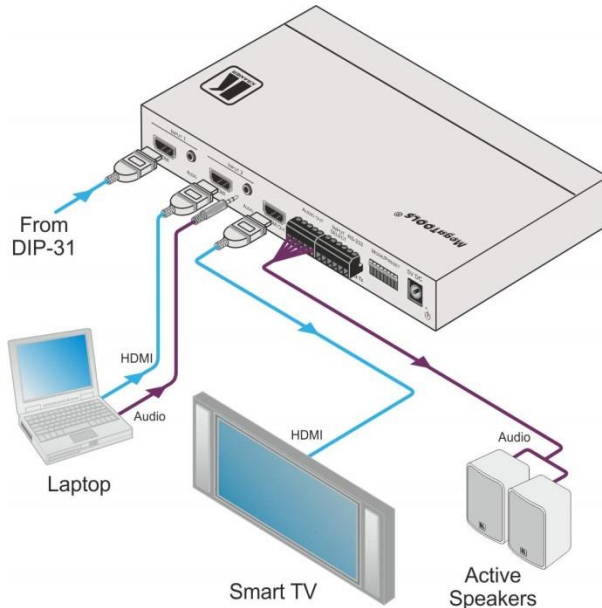

Figure 2: Connecting the VS-211UHD UHD Auto Switcher
To connect the **VS-211UHD**, as illustrated in the example in Figure 2, do the following:
9. Connect a power cord to the device and plug it into the mains electricity (not shown in Figure 2).